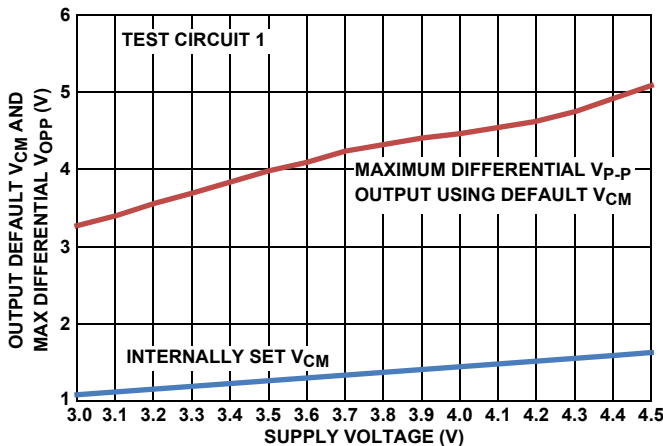
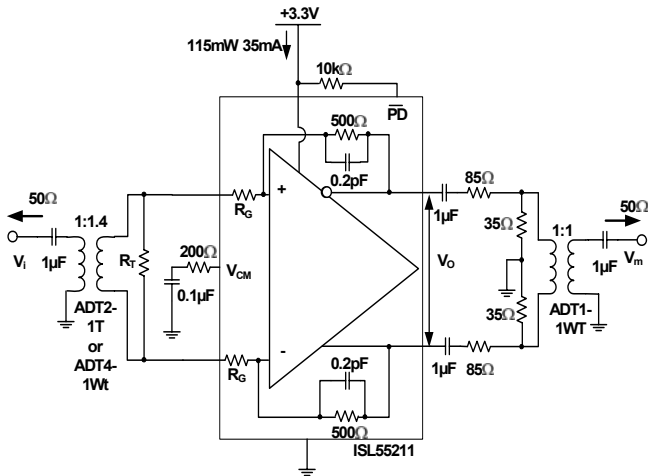
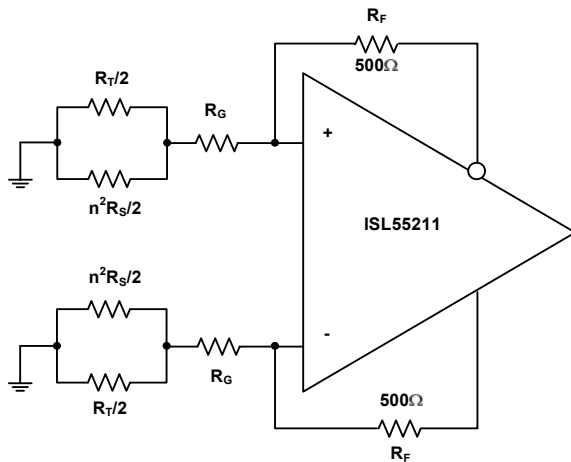
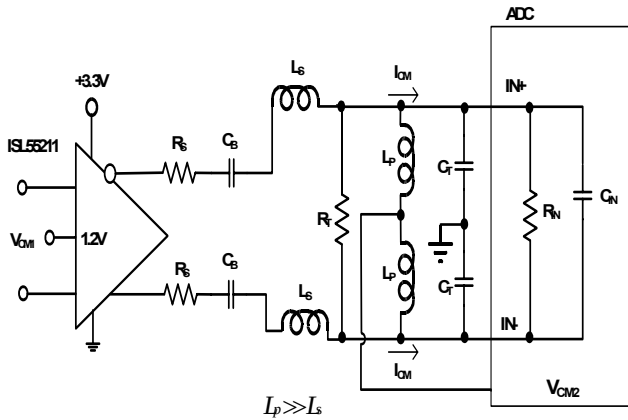

FIGURE 27. DEFAULT V_{CM} AND MAX V_{Opp} vs SUPPLY VOLTAGE
FIGURE 29. TEST CIRCUIT 1
FIGURE 35. NOISE GAIN MODEL FOR THE TRANSFORMER COUPLED INPUT CIRCUIT OF FIGURE 29
FIGURE 37. AC-COUPLED, HIGHER FREQUENCY RLC INTERSTAGE FILTER DESIGN
Test Circuit 1 of Figure 29 forms a starting point for many of the characterization curves for the ISL55211. Since most lab sources and measurement devices are single-ended, this circuit converts to differential at the input through a wideband transformer and would also be a typical application circuit coming from a single-ended source. Assuming the source is a 50Ω impedance, the internal R_G resistors and external R_T are set to provide both the input termination and the gain. Since the inverting summing nodes act as virtual ground points for AC signal analysis, the total termination impedance across the input transformer secondary will be $(2 \cdot R_G) \parallel R_T$. Setting this equal to $n^2 \cdot R_S$ will give a matched input impedance inside the bandwidth of the transformer (where "n" is the turns ratio). The amplifier gain is fixed by the selected input R_G element and the internal 500Ω feedback resistors. While the ISL55211 is internally a Voltage Feedback Design (VFA) to give the lowest possible noise, internal compensation caps hold the bandwidth over gain setting approximately constant at 1.4GHz. For wider small signal bandwidth at lower gains, consider the ISL55210, which provides >2.2GHz at a gain of 12dB.
Working with a transformer coupled input as shown in Figure 29, or with two DC blocking caps from a differential source, means the output common mode voltage set by either the default internal V_{CM} setting, or a voltage applied to the V_{CM} control pin, will also appear as the input common mode voltage. This provides a very easy way to control the ISL55211 I/O common mode operating voltages for an AC-coupled signal path. The internal common mode loop holds the output pins to V_{CM} and, since there is no DC path for an I_{CM} current back towards the input in Figure 29, that V_{CM} setting will also appear as the input common mode voltage. It is useful, for this reason, to leave any input transformer secondary centertap unconnected. The internally set V_{CM} voltage is referenced from the negative supply pin. With a single 3.3V supply, it is very close to 1.2V but will change with total supply voltage across the device as shown in Figure 27.
Most of the characterization curves starting with Figure 29 then get different gains by changing the connections to the two pairs of input R_G connections, as shown on the pin configuration drawing on page 2. Two input turns ratios are intended for Test Circuit 1; either a 1:1.4 turns ratio (ohms ratio of 2) or a 1:2 turns ratio (ohm ratio of 4). The specific transformers shown in Figure 29 are representative of broadband RF transformers but alternate devices and manufacturers of these turns ratio devices are certainly applicable. The output side of this test circuit presents a differential 200Ω load while converting the differential to single-ended through a resistive attenuator and a 1:1 transformer. This inserts approximately a 17dB insertion loss that is removed to report the characteristic curves. For load tests below the 200Ω shown in Figure 29, a simple added shunt resistor is placed across the output pins. For loads > 200Ω, the series and shunt load R 's are adjusted to show that total load (including the 50Ω measurement port reflected through the 1:1 output measurement port transformer) and provide an apparent 50Ω differential source to that transformer. This output side transformer is for measurement purposes only and is not necessary for final applications circuits. There are output interface designs that do benefit from a transformer as part of the signal path as shown in Figure 1. In that case, the 1:1.4 output side transformer becomes part of a filter design and recovers the filter insertion loss from the amplifier output pins to the ADC inputs.
The characterization circuit of Figure 29 shows one possible input stage interface that offers several advantages. Where AC coupling is adequate, the circuit of Figure 29 simplifies the input common mode voltage control. If the source coming into this stage is single-ended, the input transformer provides a zero power conversion to differential. The two gain resistors (R_G in Figure 29) provide both a portion of the input termination impedance and the gain element for the amplifier. For 50Ω systems, these R_G resistors are too high with the turns ratios shown in Figure 29 to provide the full match and an external R_T resistor is required. This R_T element goes away at the highest gain setting using a 1:2 input turns ratio transformer.
This input interface also simplifies the input common mode control. The V_{CM} pin controls the output common mode voltage. In most DC-coupled FDA applications, the input common mode voltage is determined by both this output common mode and the source signal. In a configuration like Figure 29, there is no path for a common mode current to flow from output to input, so the input common mode voltage equals the output. A similar effect could be achieved with just two blocking caps on the two R_G resistors. A DC-coupled, single to differential, configuration will also have a common mode input that is moving with the input signal. Converting to just a differential signal at the amplifier, as in Figure 29, removes any input signal related artifacts from the input common mode making the ISL55211 behave as a differential only VFA amplifier. There is only a very small differential error signal at the inputs set by the loop gain, as in a
maximum differential V_{P-P} swing will be 4x this 0.6V single-ended limit or $2.4V_{P-P}$. Where $+V_S$ is increased, the limit then becomes the 0.9V below V_{CM} , but then the absolute maximum differential V_{P-P} is then $4 \times 0.9V$ to $3.6V_{P-P}$. So for instance, to get this maximum output swing, increase the supply voltage until $+V_S - 1.5V > V_{CM} + 0.9V$. If we assume a V_{CM} voltage of 1.3V for instance, then $1.3V + 0.9V + 1.5V = 3.7V$ will give an unclipped $3.6V_{P-P}$ output capability. The V_{P-P} reported in Figure 27 is an asymmetrically clipped maximum swing. Going 10% above this 3.7V target to 4.1V will be within the recommended operating range and give some tolerancing headroom that would also suggest the V_{CM} voltage be moved up to approximately 1.5V, which coincides with the default output V_{CM} from Figure 27. Operating at +4.1V single supply in a Figure 29 type configuration will give the maximum linear differential output swing of $3.6V_{P-P}$.
The differential inputs internal to the ISL55211 also have operating range limits relative to the supply voltages. Operating in an AC-coupled circuit like Figure 29 will produce an input common mode voltage equal to the outputs. The inputs can operate with full linearity with this V_{CM} voltage down to 1.1V above the $-V_S$ supply. On the default 1.2V output V_{CM} on +3.3V supplies this gives a 100mV guardband on the input V_{CM} voltages. Overriding the default V_{CM} by applying a control voltage to the V_{CM} pin should be done with care in going towards the negative supply due to this limit. On the + side, the maximum input V_{CM} above the $-V_S$ supply is 2V so there is more room to move the output V_{CM} up than down from the default value.
+85°C maximum operating ambient from Figure 27, we get 4.5V*45mA*+120°C/W = +24°C rise above +85°C or approximately +109°C operating T_J maximum - still well below the specified Absolute Maximum operating junction temperature of +135°C.
Adding an input transformer can improve the input referred noise by adding a noiseless voltage gain. Starting from Test Circuit 1 of Figure 29, and assuming the source shows a matched broadband source R_S that will be matched by the input referred parallel combination of 2*R_G || R_T, a noise gain analysis circuit can be developed as shown in Figure 35.
Stepping through the 3 gain settings with two input transformers will allow the noise gain to be calculated for the circuit of Figure 35, which is all that is needed in Equation 1 to arrive at an output differential noise (since R_F is fixed at 500Ω). Doing this gives Table 4.
2. AC-coupled, higher frequency range interstage filter design. This design replaces the R_T resistors in Figure 35 with large valued inductors and implements the filter just using shunt resistors at the end of the RLC filter. In this case, the ADC V_{CM} can be tied to the centerpoint of the bias path inductors (very much like a Bias-T) to provide the common mode voltage and current to the ADC inputs. These bias inductors do limit the low frequency end of the operation where, with $1\mu\text{H}$ values, operation from 10MHz to 200MHz is supported using the approach of Figure 37.